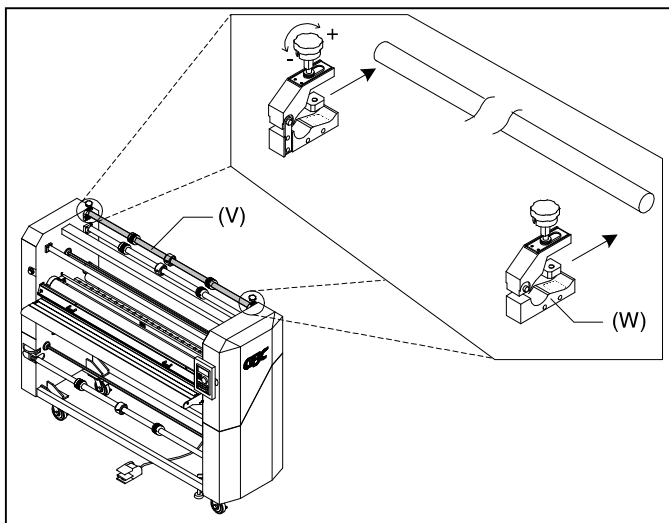

Fig. 19
V. SECONDARY UPPER UNWIND: (Figure 19) Used when requiring brake tension from both end of the film roll (ie. Micronex®). Unlike the primary unwinds, this unwind must be removed from the laminator to load film.
W. SECONDARY UPPER UNWIND BRAKE TENSION: (Figure 19) Used to apply brake tension to the secondary upper unwind shaft. Left and right brakes allow for